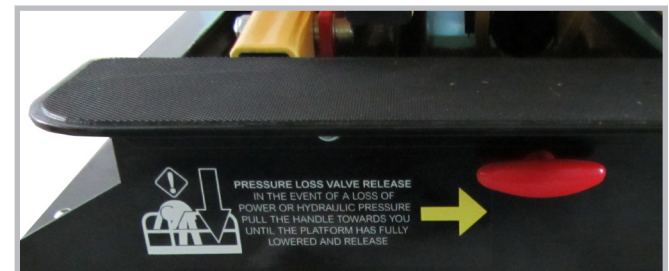

Figure 2
2. Pull the pressure loss valve release handle, shown in *figure 2* below, which is mounted under the step up to the platform, until the platform lowers. It at any time you need to stop the descent simply release the handle.